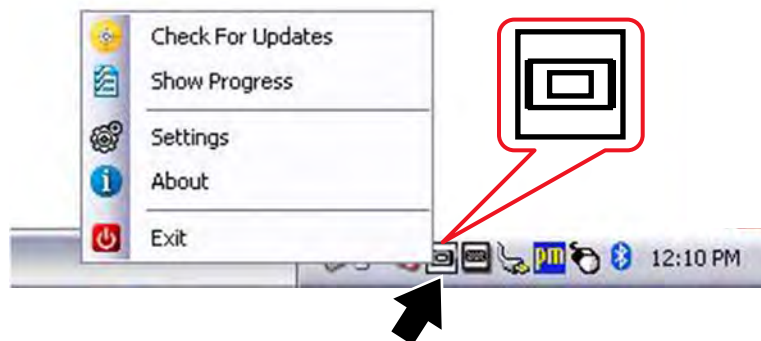

Figure 16-5 ShopStream Update Tool icon and menu
1. Select the SST icon in the system tray to open the menu (Figure 16-5).